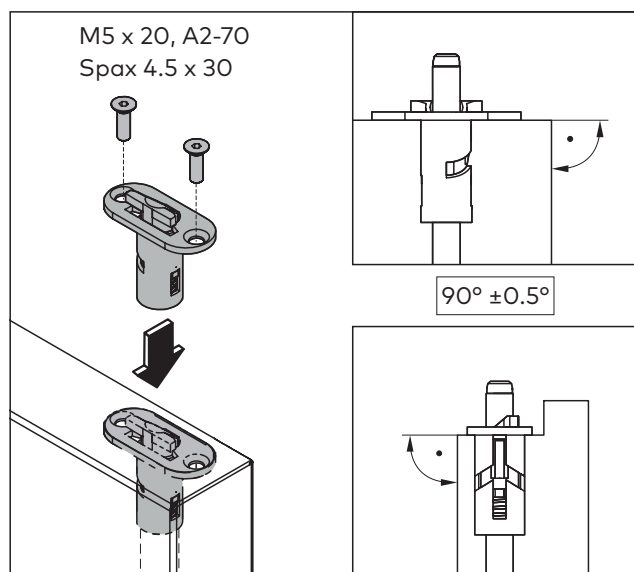

Fig. 49 Mount switch lock
12. Mount the switch lock at the top of the passive door leaf so that the inclined surface faces the door frame (Fig. 49).
8. Mount the switch lock at the top of the fixed leaf again so that the inclined surface faces the door frame (Fig. 49).